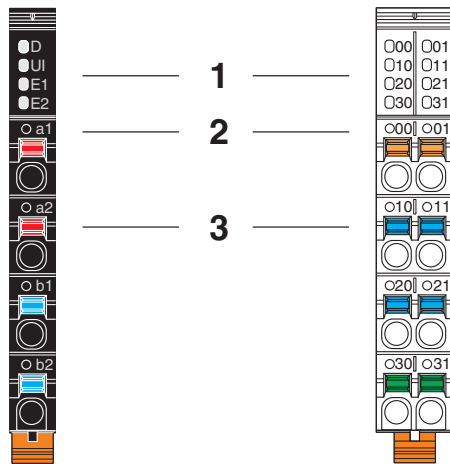

Figure 5-24 Marking of the terminal points and the LEDs on the connectors
- Indication elements** Diagnostic and status indicators are marked with the function, e.g., D, E, UI, 00, 01, ... (1 in Figure 5-24).
- Terminal points** The terminal points are consecutively numbered, e.g., a1, b1, 00, 01, ... (2 in Figure 5-24).
The associated colored spring lever indicates the function (signal, potential) (3 in Figure 5-24).